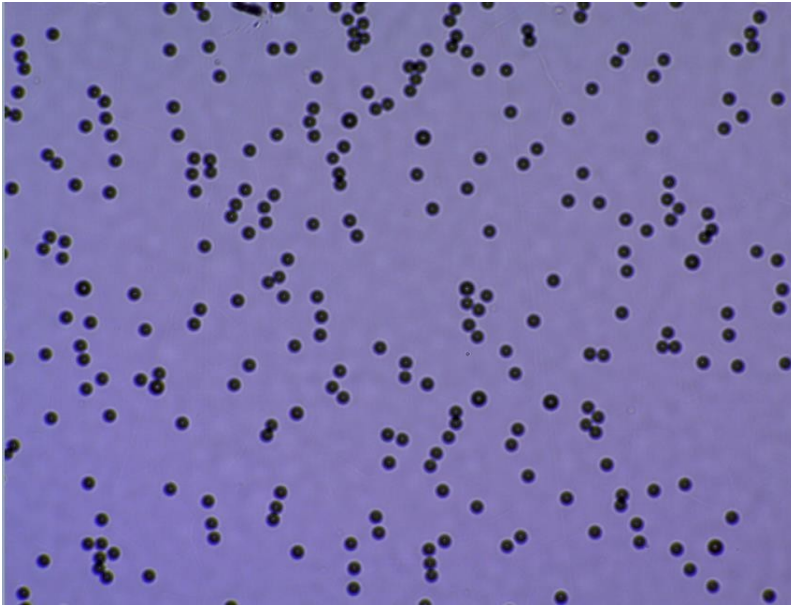

FIG. 5 Example of unclear sample imaging
3. Adjust the focusing knob on the upper left side of the instrument clockwise or counterclockwise to adjust the cells in the field of vision until the cytoplasm center is translucent, and the cell membrane is clear, as shown in FIG. 5 and 6.